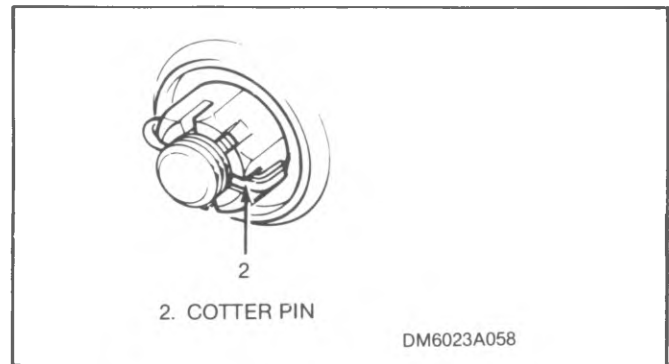

Figure 4-14. Cotter Pin Installation
11. Install and bend cotter pin (2) as shown in figure 4-14.